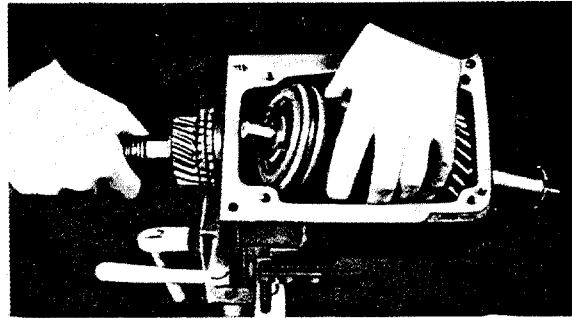

Fig. G 3/10
11. Place angle 136 589 11 61 so on countershaft that the second speed gear is propped against the wall of the transmission case (Fig. G 3/11).